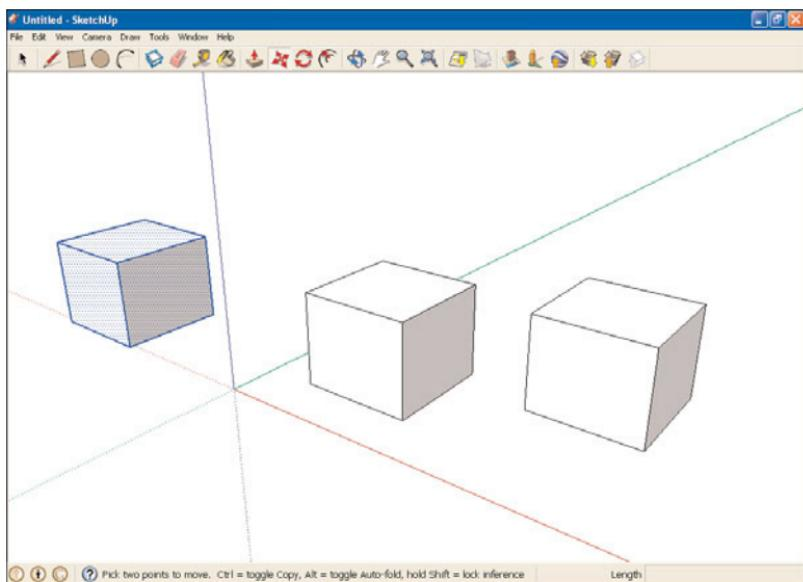

FIGURE 9.15 Three cubes.
9. Repeat steps 4–8 to create a third cube. Now you have three cubes, as shown in Figure 9.15.